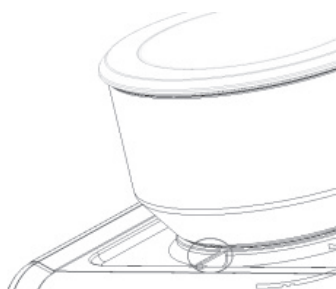

Fig. 3
- Turn the hopper (2) to select the desired grind setting (**Fig. 3**). Use a smaller setting for a finer grind and a larger setting for a coarser grind ("0" to "30"). Adjust the setting according to the roast, bean freshness, and personal preference.